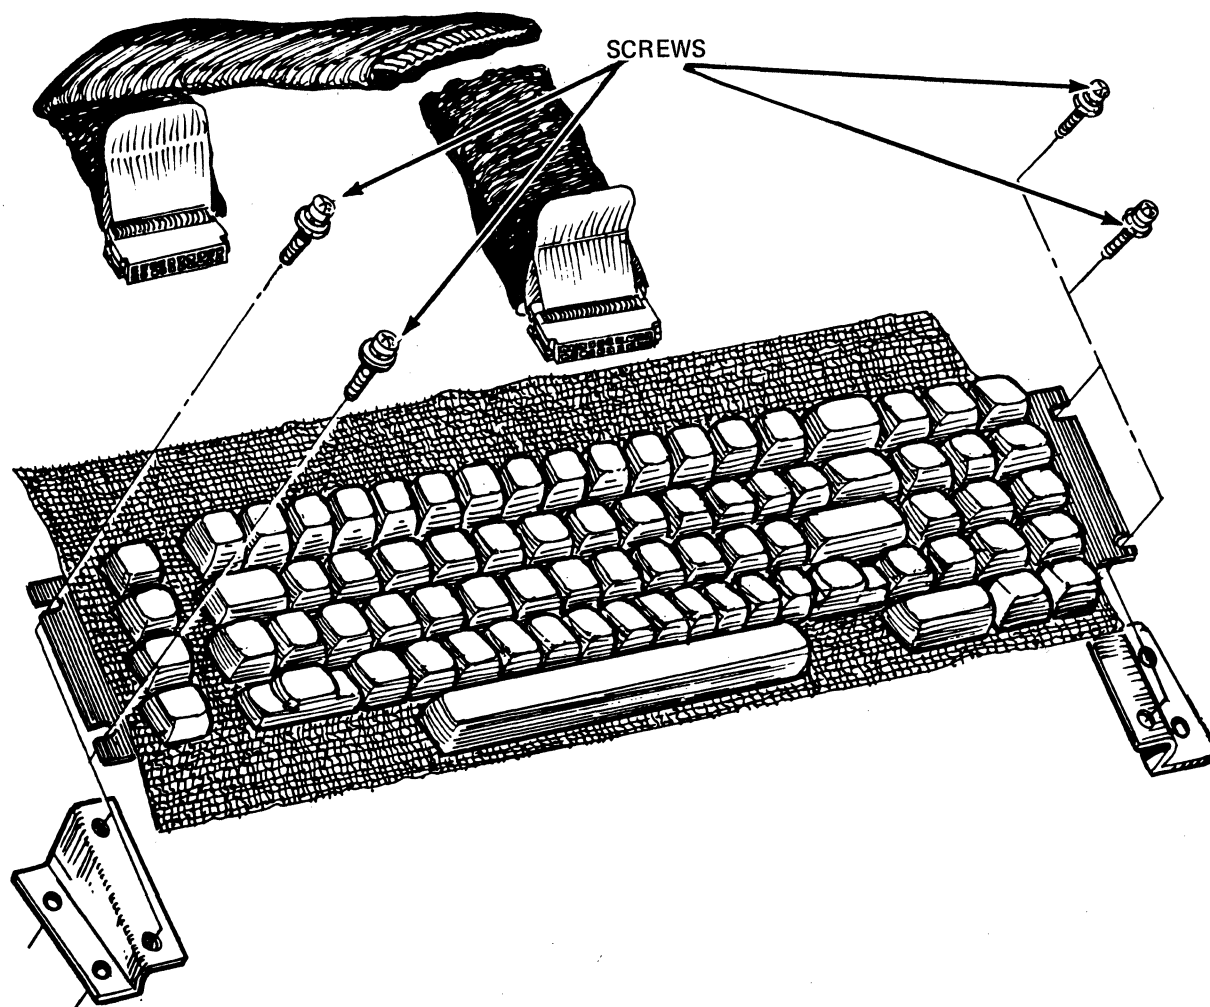

Figure 4-11 Keyboard
- d. Remove the four screws securing the keyboard to the base and remove the keyboard (see Figure 4-11).
Reverse the disassembly procedures (see Figure 4-11) described in Section 4.13.